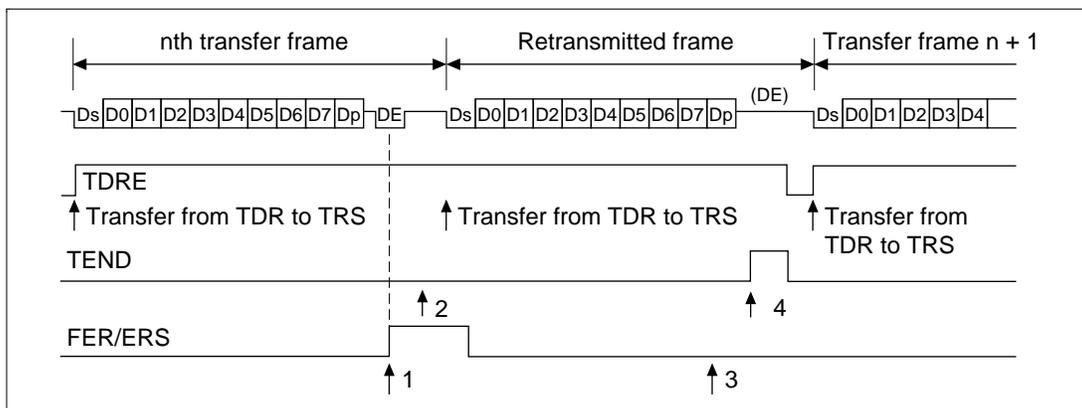

**Figure 14.9 Retransmission in SCI Receive Mode**
**Retransmission by the SCI in Receive Mode:** Figure 14.9 shows the retransmission operation in the SCI receive mode.